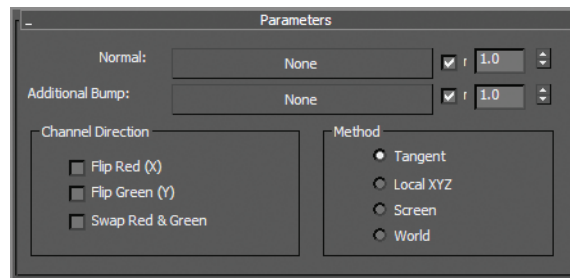

FIGURE 11.37 The Normal Bump node's Parameters rollout
3. Double click on the title bar of the Normal Bump node to bring up the Parameters rollout shown in Figure 11.37, and then click the None button next to Normal. Doing so once again brings up the Material/Map Browser.